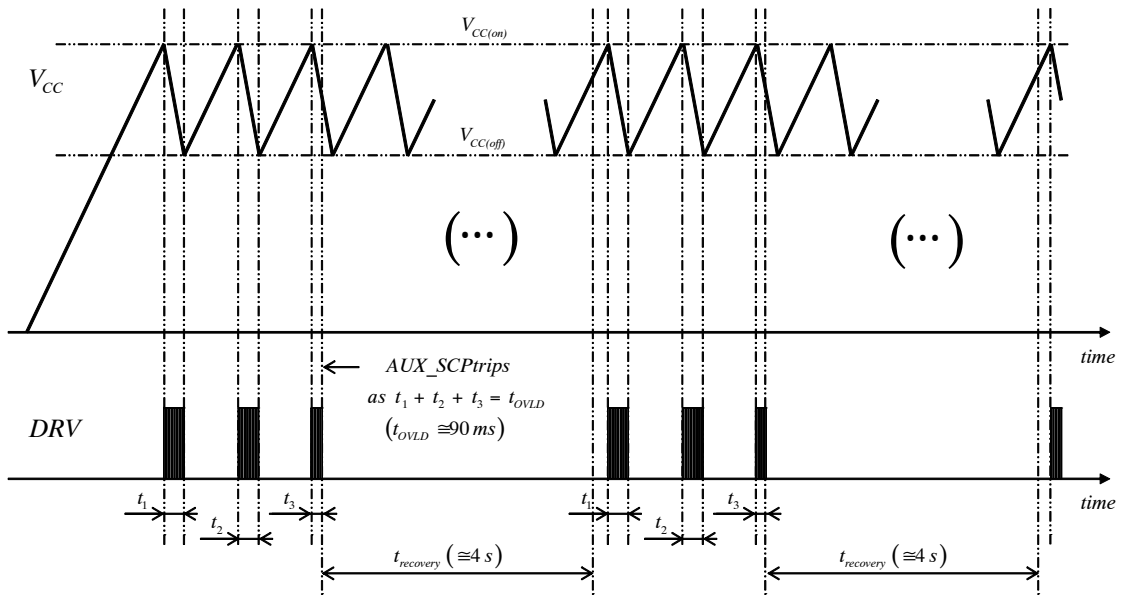

Figure 60. Start-up Sequence in a Load Short-circuit Situation
- If the load is shorted, the circuit will operate in hiccup mode with  $V_{CC}$  oscillating between  $V_{CC(off)}$  and  $V_{CC(on)}$  until the AUX\_SCP protection trips (AUX\_SCP is triggered if the ZCD pin voltage does not exceed 1 V within a 90-ms operation period of time thus indicating a short to ground of the ZCD pin or an excessive load preventing the output voltage from rising). The AUX\_SCP protection forces the 4-s auto-recovery delay to reduce the operation duty-ratio. Figure 60 illustrates a start-up sequence with the output shorted to ground.